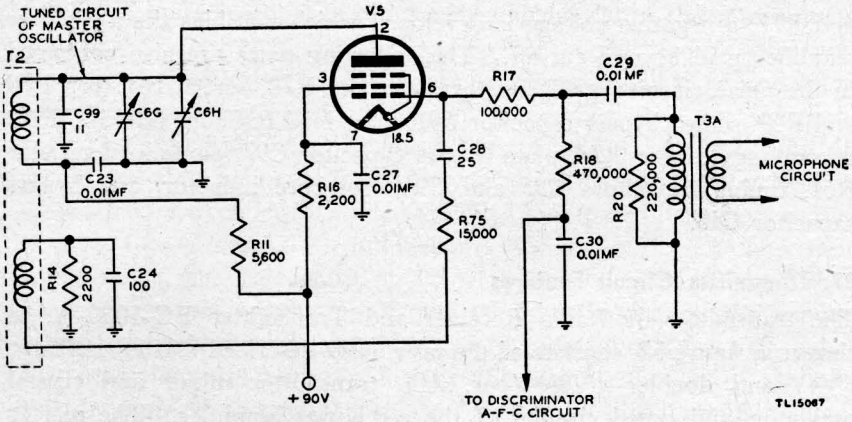

Figure 53. Radio Receiver and Transmitter BC-1000-A, reactance modulator.
a. The reactance modulator Tube JAN-1L4, V5, shown in figure 53, changes the frequency of the master oscillator (V4) in accordance with changes in voltage of the audio signal applied to its control grid. The greater the amplitude of this audio modulating signal, the greater is the frequency deviation on each side of the resting frequency. The higher the audio frequency, the *more often* the frequency deviates on each side of the resting frequency. The audio signal is applied to the grid of the reactance modulator tube V5 by microphone transformer T3A and blocking capacitor C29. The transformer secondary is shunted by resistor R20 to place a more constant load on the microphone circuit and to reduce any audio howl. R17 is an isolating resistor in the control grid circuit.